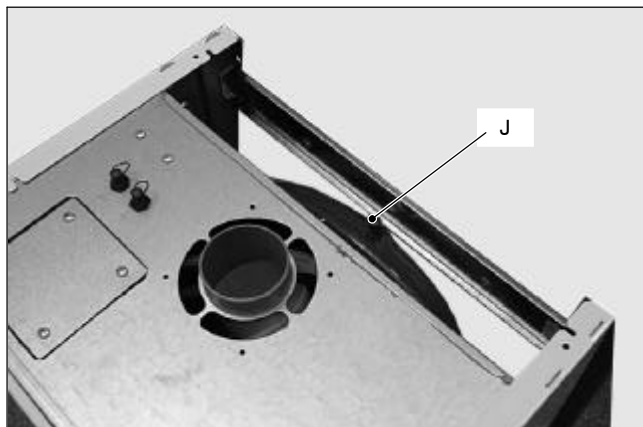

Fig. 52
- 2 Remove the protective cap J (Fig. 52) from the valve on the top of the expansion vessel and connect a suitable air pressure gauge.